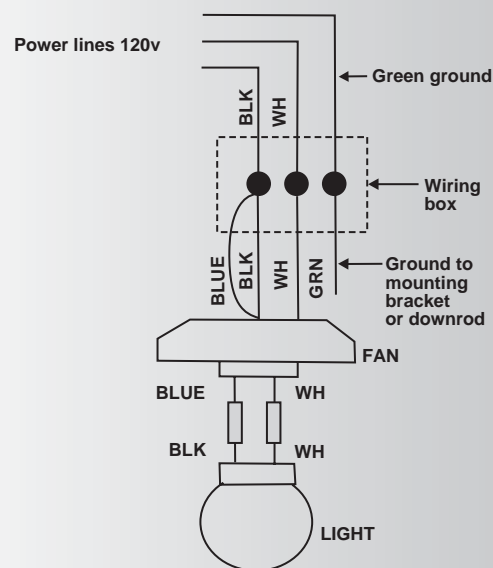

Fig. 12
Step 1 Connect the fan supply (black) wire and light supply (blue) wire to the black household supply wire as shown in Figure 12.